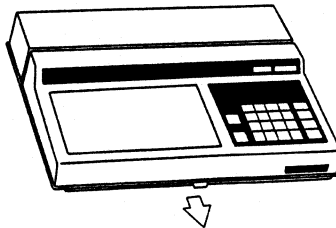

Fig. 4-2
- (2) Unlock by pulling the tab at the bottom of the front of the PG-1000 shown in Figure 4.2.